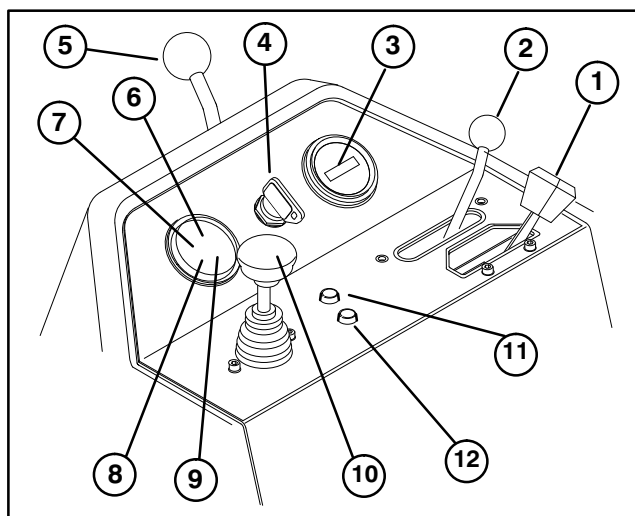

Figure 23
Throttle Control (Fig. 23) – The Throttle Control gives the operator the ability to control the speed of the engine. Moving the Throttle Control toward the “FAST” position increases engine RPM; moving Throttle Control toward “SLOW” will decrease engine RPM.
Functional Control Lever (Fig.23) – Provides two (2) traction selections, plus a “NEUTRAL” position. It is permissible to shift from mow to transport or transport to mow (not to neutral) while the Greensmaster 3250–D is in motion. No damage will result.
Hour Meter (Fig.23) – Indicates the total hours of machine operation. The hour meter starts to function whenever the key switch is rotated to “ON”.
Ignition Switch (Fig. 23) – Insert key into switch, turn clockwise as far as possible to “START” position to start engine. Release key as soon as engine starts; key will move to “ON” position. Turn key counterclockwise to “OFF” position to stop engine.
Steering Arm Locking Lever (Fig.23) – Rotate lever rearward to loosen adjustment, raise or lower steering arm for operator comfort, then, rotate lever forward to tighten adjustment.
Water Temperature Light (Fig. 23) — Light glows and engine automatically shuts down when engine coolant temperature gets too high.
Water in Fuel Indicator Light (Fig. 23) — Light glows when water is detected in fuel.
High Temperature Override Button (Fig. 23) —If engine kills due to an over heat condition, press over ride button in and hold until machine can be moved to a safe location and allowed to cool down.
Glow Plug Indicator Light (Fig. 23) – When lit, indicates glow plugs are on.
Battery Warning Light (Fig. 23) – Light glows if battery charge is low.
Oil Pressure Light (Fig. 23) — Light glows if engine oil pressure drops below a safe level.
Raise / Lower – Mow Control (Fig. 23) – Moving control forward, during operation, lowers the cutting units and starts the reels. Pull back on control to stop reels and raise cutting units. During operation reels can be stopped by pulling back on control momentarily and releasing. Restart reels by moving control forward.